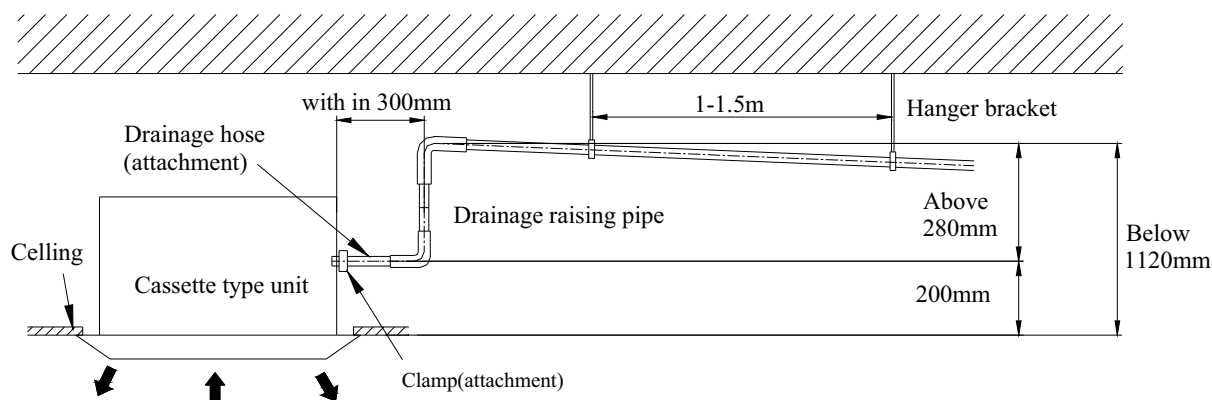

Figure 1-3-9
- ◆ The drain raising pipe should form a right angle with the unit, and distance to unit should not beyond 300mm. (As shown in Figure 1-3-9)